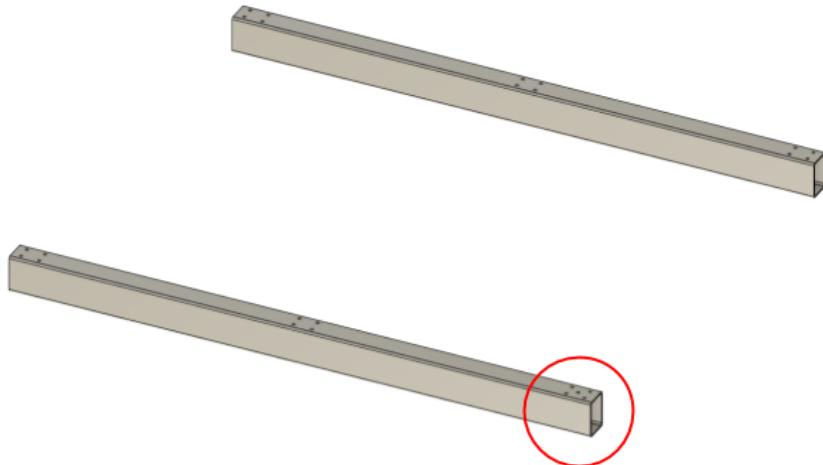

Figure 3.1
1. Place the prepared Y-Axis frame pieces parallel to each other with the holes facing up as shown in Figure 3.1. Please note the location of the Y-Axis frame beam which has 5 holes, circled in red.